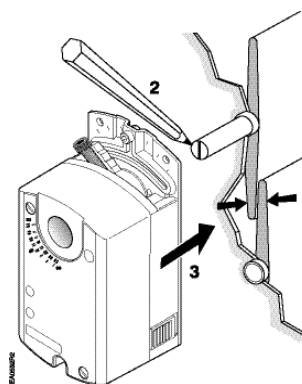

Figure 6. Mounting Actuator to Damper Shaft.
NOTE: The GDE/GLB Enhanced actuator comes with a factory-installed 1/2-inch shaft guide. If the shaft size is 1/2-inch, proceed with Figure 6.
3. Proceed to Figure 6.
2. Mount actuator to shaft per Figure 6.